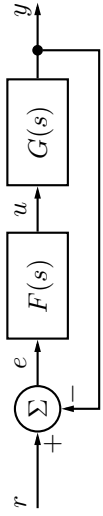

Figure 6.2a
6.2 Assume that we have constructed a controller  $F(s)$  for the model  $G(s)$ , see Figure 6.2a, such that there is no steady state error when the reference signal is a step. Let the real system be given by
and assume that  $G^0(s) \rightarrow 0, s \rightarrow \infty$ . Also assume that the amplitude curve of the closed loop system has no resonance peaks and decreases, at least and asymptotically, with 20 dB20/decade for frequencies over the bandwidth. What is the highest possible bandwidth we can use for the closed loop system in Figure 6.2a, while at the same time guaranteeing stability?